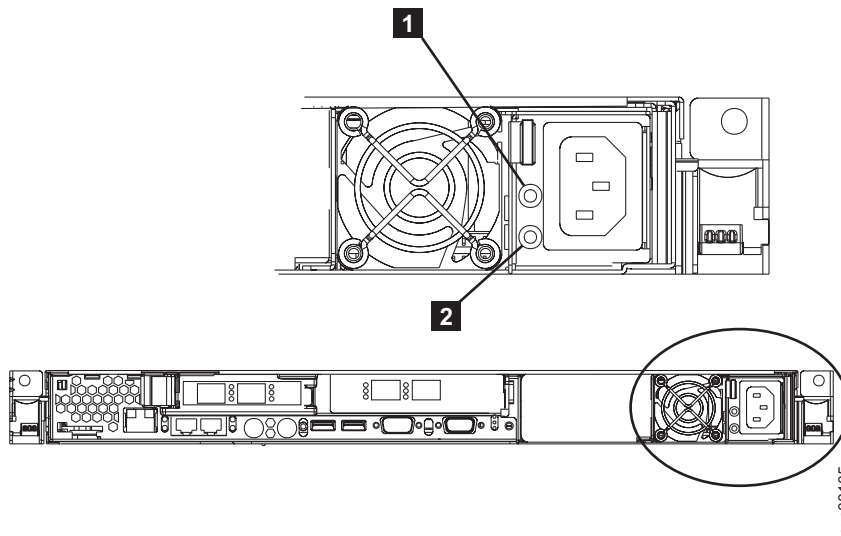

Figure 49. ac and dc LED indicators
**Is the ac indicator on the rear of the SAN Volume Controller 2145-8F2 or SAN Volume Controller 2145-8F4 power supply assembly illuminated?** See Figure 49.
**Is the dc indicator on the rear of the SAN Volume Controller 2145-8F2 or SAN Volume Controller 2145-8F4 power supply assembly illuminated?** See Figure 49 on page 236.